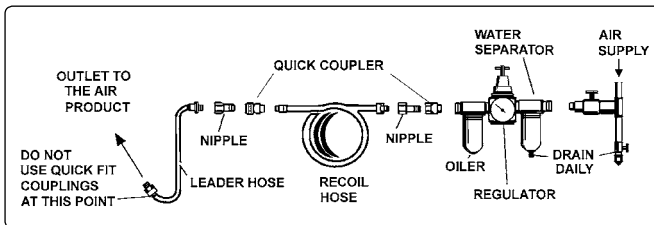
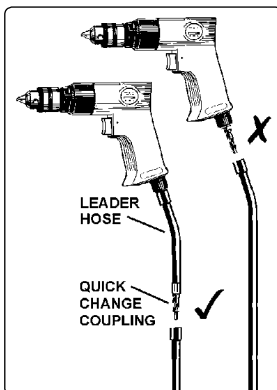

fig.1
fig.2
- 3.1.4. Clean air inlet filter weekly. Recommended hook-up procedure is shown in (fig.1).
Vibration may cause failure if a quick change coupling is connected directly to the air drill. To overcome this, connect a leader hose Sealey model number AH2R or AH2R/38 - to the drill. A quick change coupling may then be used to connect the leader hose to the air line recoil hose. See (fig.1) & (fig.2).